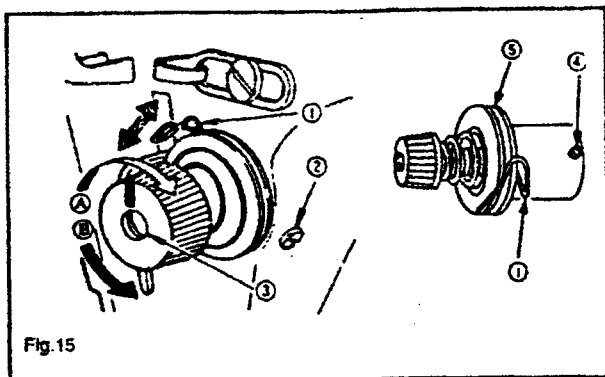

Fig.15
- 1) As you turn tension adjust screw ② clockwise (in direction C), the bobbin thread tension will increase,
- 2) As you turn screw ② counterclockwise (in direction D), the bobbin thread tension will decrease.
9. THREAD TAKE-UP SPRING (Fig.15)